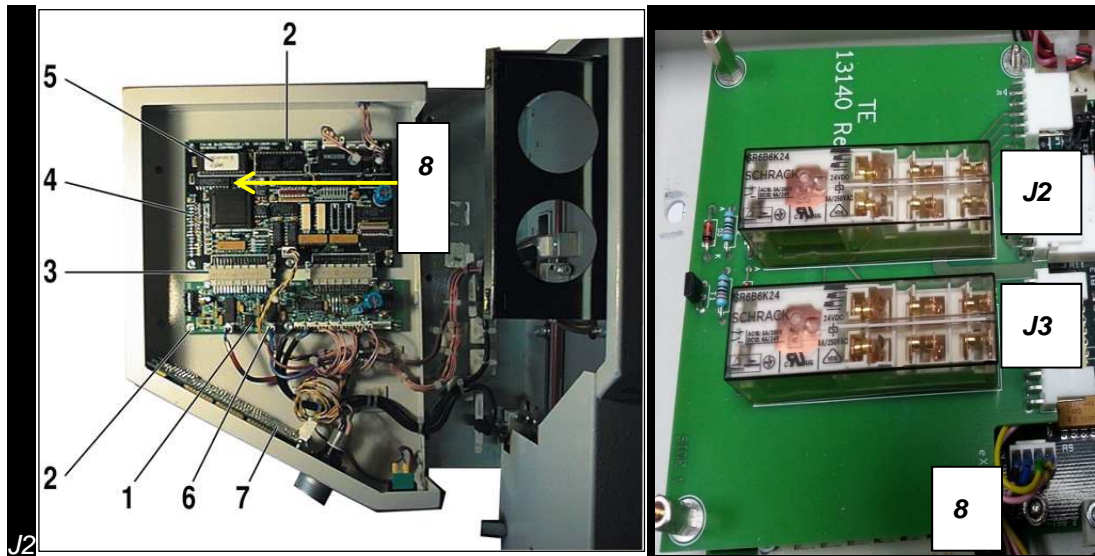

Fig. 4-19: Generic Controller PCB Removal
3. Remove the six retaining nuts from the GC PCB.(Figure 4.19.(2)).
*The Software EPROM (Figure 4.19.(5) can be replaced or upgraded without removing the GC PCB. Ensure static electricity precautions are maintained and the correct removal/insertion tool is used. Carry out a processor functional check from Step 9.) After replacement.*
2. *Locate the TI PCB. (Figure 4.19.)*
- 6. Trace the route of the thermocouple connecting cable from the SKT5 to connector J3 on the thermocouple interface PCB (Fig 4.19.).**
- 2. Locate the TDP refer to Figure 4.19. (7)**